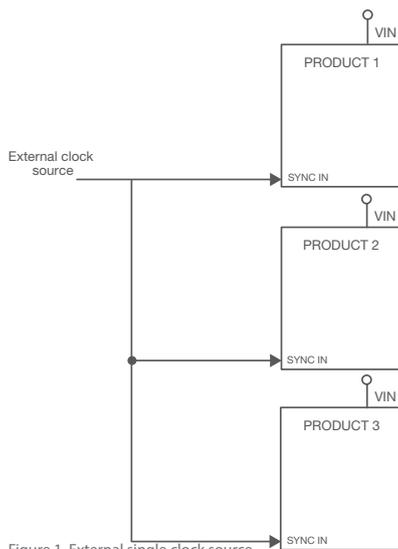

Figure 1. External single clock source.
- 1 External single clock source. The common switching clock is sourced from an external clock source within the system. The SYNC pin of each product in the group is configured as an input. See illustration in Figure 1.